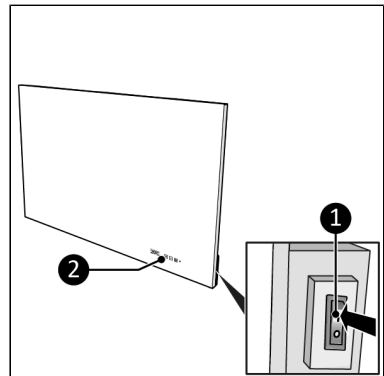

Figure 23.
1. Set the ON/OFF switch to the ON position (Figure 23, pos. 1).
2. The control panel and display (Figure 23, pos. 2) will light up.